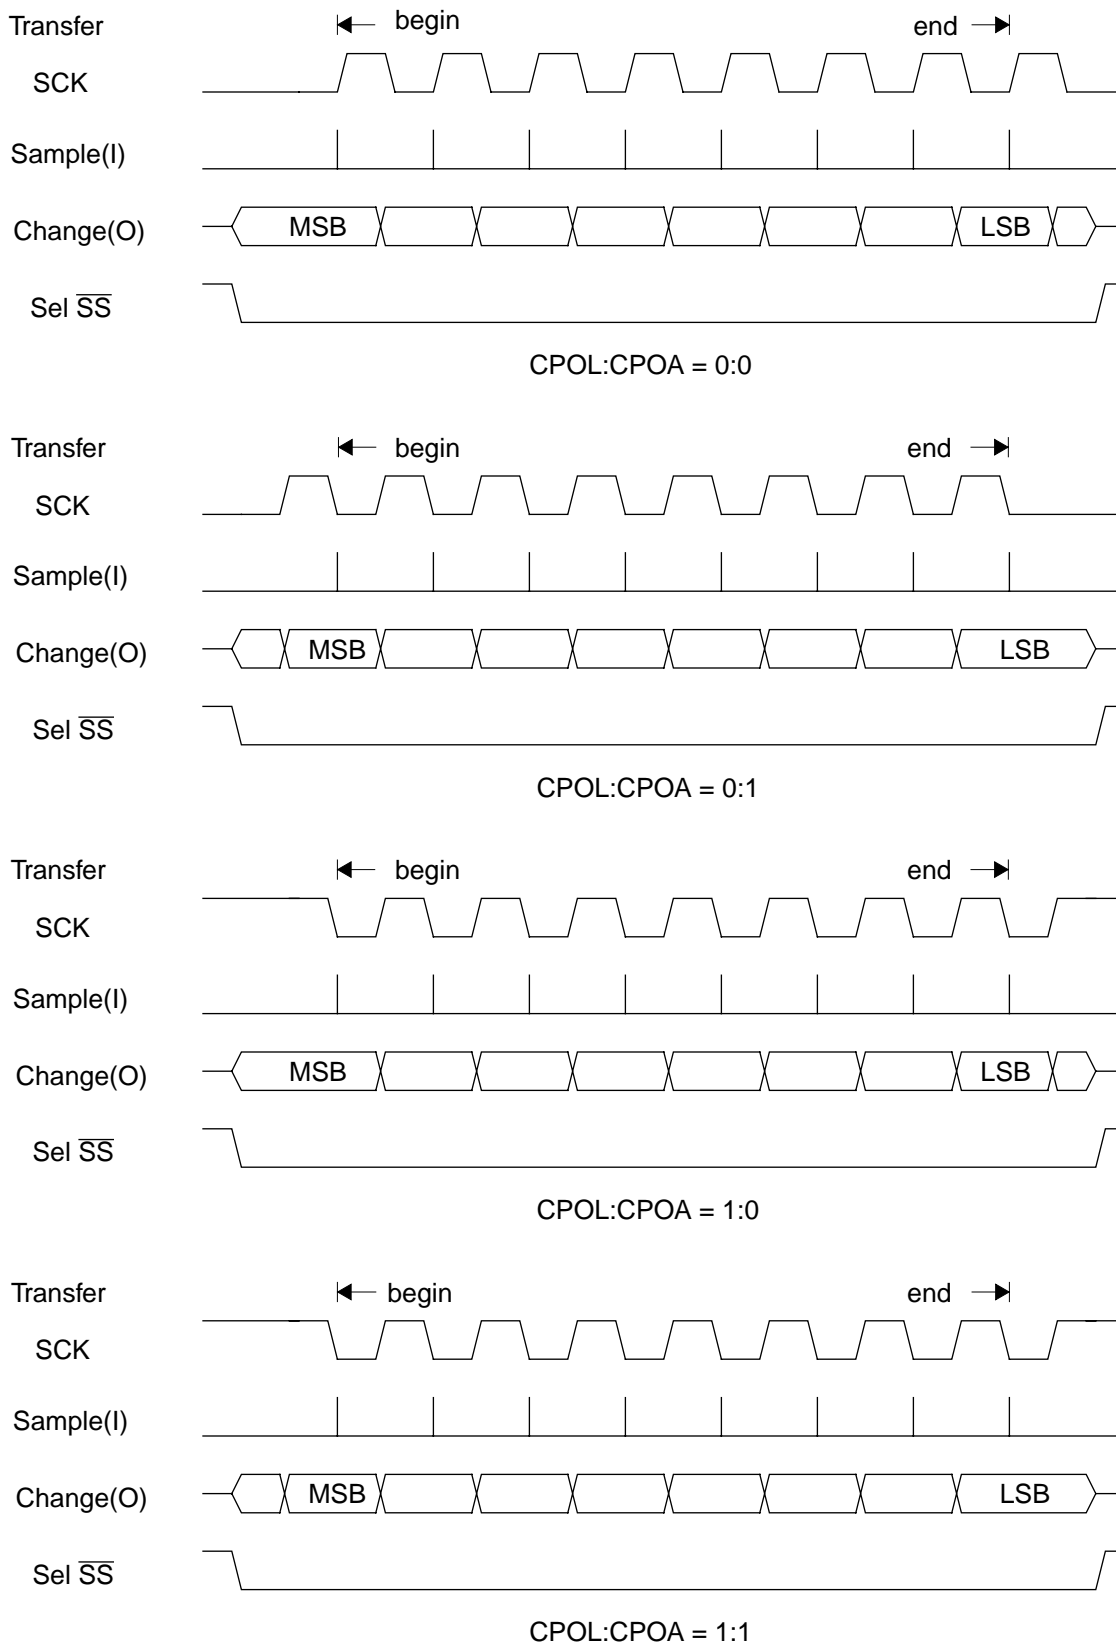

Figure 9-1. SPI Clock/Data Relationships
MISO is the signal which is used in Slave Mode to present data from a Slave device to the bus. The MISO pin will be placed in the hi-Z state whenever a Slave device is “not” selected ($SS=1$) by the bus master. **Figure 9-1** shows the clock (SCK) and data relationship. Four possible timing relationships may be chosen by use of the control bits (CPOL) and (CPHA). The Slave device and a Master device must be programmed to be in similar timing modes for proper data transfer.
MOSI is the signal used to receive data from some Master device. **Figure 9-1** shows the serial clock and data timing relationship.
The serial clock is used to move data both in and out of the device through its MOSI and MISO pins. The Master and Slave device are capable of exchanging a byte of information during a sequence of eight clock pulses if wired to do so. In the slave mode, the SCK pin becomes an input for the external clock being sent from the Master device. In this case SCK is asynchronous to the Slave device's phase 1-2 clocks and read/write control, therefore synchronization must take place prior to transmission and after reception. This must be done on the byte level. The type of clock and its' relationship with the data is controlled by bits CPOL and CPHA. Reference **Figure 9-1**. The clock rate control bits SPR1 and SPR0 have no function while the part is in the Slave mode.
from the bus clock. The clock rate is selected by bits (SPR1,SPR0) in the control register. The SCK pin on the Master device becomes a fixed output providing the system clock to an enabled Slave or Slaves. The clock is used by the Master to latch incoming Slave data on the MISO pin and shift out data to the Slave device on the MOSI pin. The Master and Slave must be operated in the same timing mode. The type of clock and its' relationship with the data is controlled by bits CPOL and CPHA. Reference **Figure 9-1**.
The slave select (\overline{SS} input) is generated by the master (parallel port may be used) and used to "enable one" of several slaves to accept and/or return data or "enable several" slaves to accept data. To insure a data byte transfer, the SS signal must be low prior to occurrence of SCK and must not become high until after the 8th (last) SCK cycle. **Figure 9-1** shows the clock (SCK) and data relationship. Depending on the state of the CPHA control bit, the SS pin pulled low: (1) allows the first bit of data onto the MISO system line for transfer and (2) prevents the Slave from reading or writing the data register. A further description of the affect of the (SS) pin and (CPHA) control bit on the i/o data register is given in the description of the (WCOL) status flag. The (WCOL) flag warns the Slave if it has had a conflict between a transmission and a write of the data register. A high level on SS forces MISO to the hi-Z state. Also, SCK and MOSI are ignored by the disabled slave.
These two bits are used to specify the clock format to be used in SPI operations. Please refer to **Figure 9-1**.